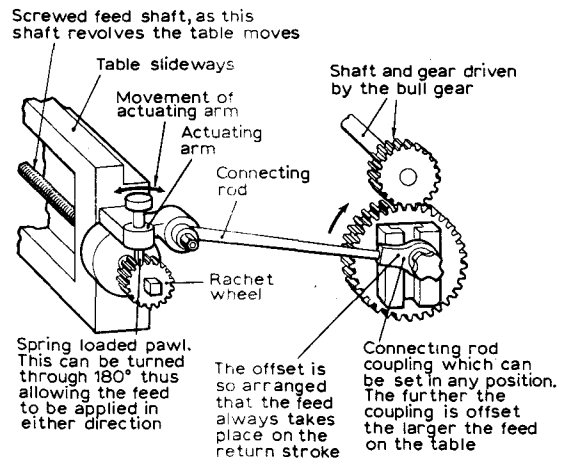

Fig. 4.209 The shaping-machine feed-mechanism
**The feed mechanism.** The feed of the shaper table and the way in which it is obtained varies with different makes of machines. It is not so important to have such a large selection of feeds as it is with the centre lathe and milling machine. The feed is selected according to the finish required—a very coarse feed being used for roughing cuts and a fine feed being used for finishing cuts. Fig. 4.209 shows the feed mechanism.